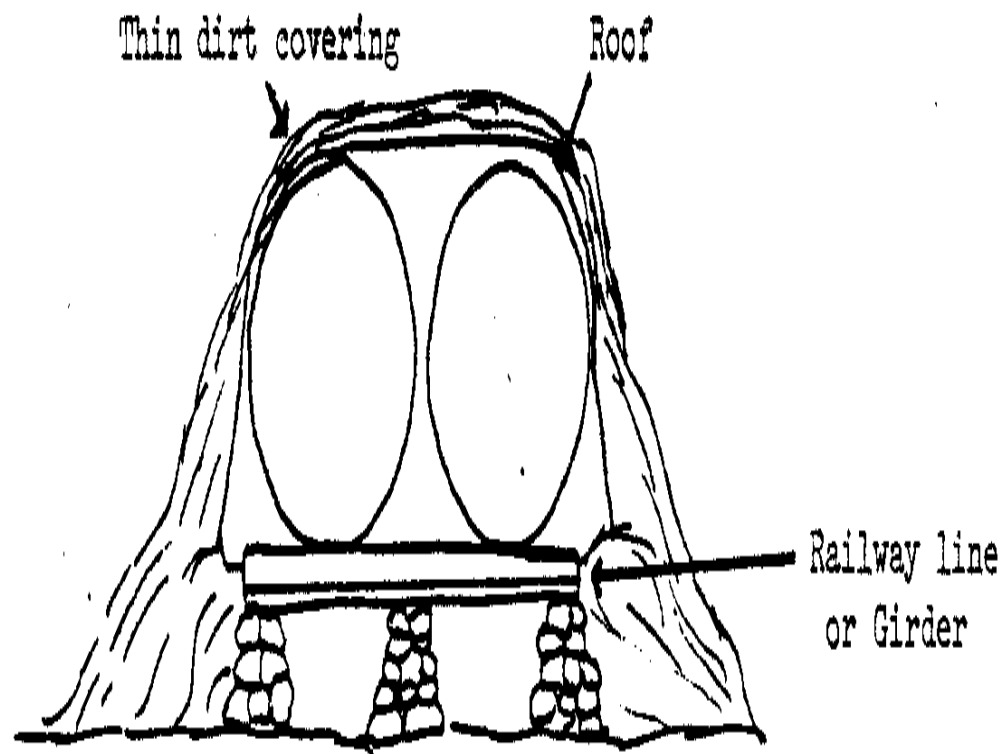

Figure 11
* Place old railway lines or girders on piles of stones or bricks. Rest the chambers on these. Put the fire below. <see figure 11>